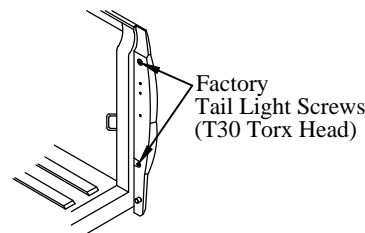

Figure 8: Factory tail light screws.
1. **Remove** four (4) factory tail light screws (T30 Torx), two (2) per side (Figure 8).